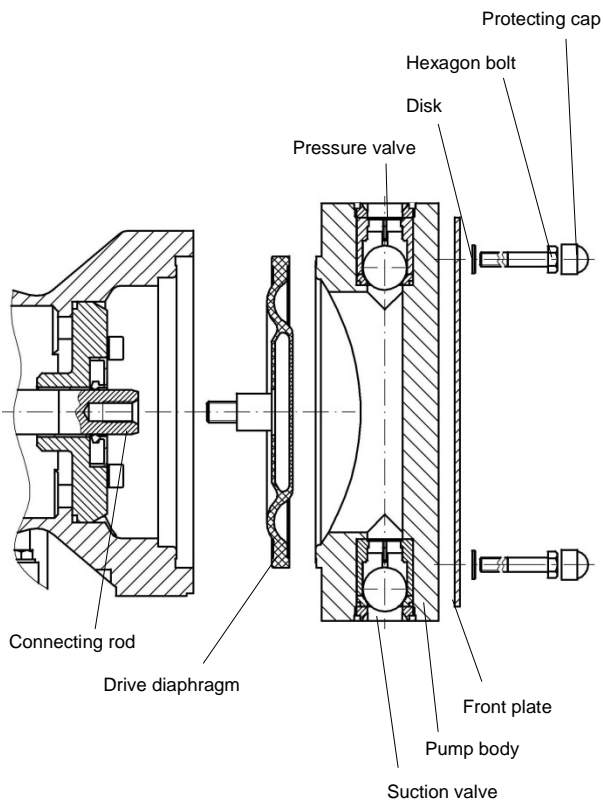

Fig. 33
- Disassemble the pump body (see Chapter 11.4.2, Fig. 33) and screw out the drive intermediate diaphragm